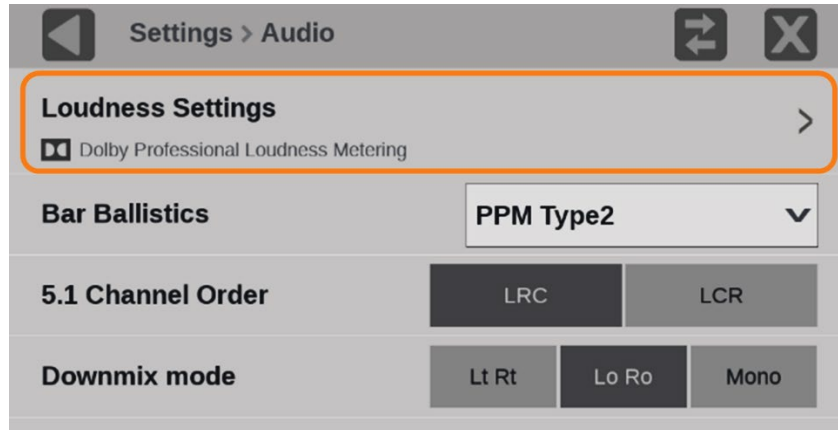

Figure 55: Audio submenu with the Loudness Settings marked
3. Select **Loudness Settings**. (See Figure 55.)